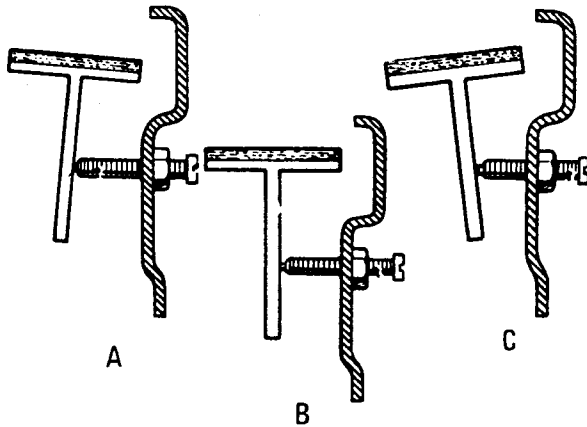

Fig K1.17
- (6) Refer to Fig K1.17. Screw the steady posts clear of the brake shoes and apply the brakes (A).
- (7) With the brakes applied screw in the steady posts to contact the brake shoes, then secure (B).
- (8) Do not tilt the brake shoes by screwing in the steady posts too far (C).
- (9) Replace the road wheel and lower the vehicle to the ground.